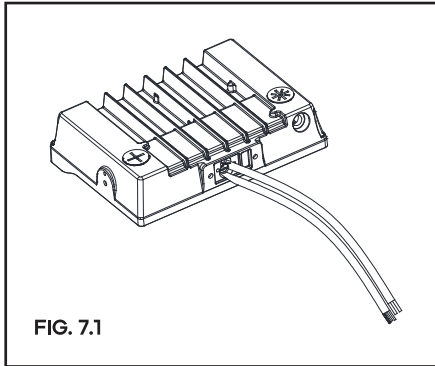

FIG. 7.1
STEP 1. Take the fixture out of the package. **FIG. 7.1**